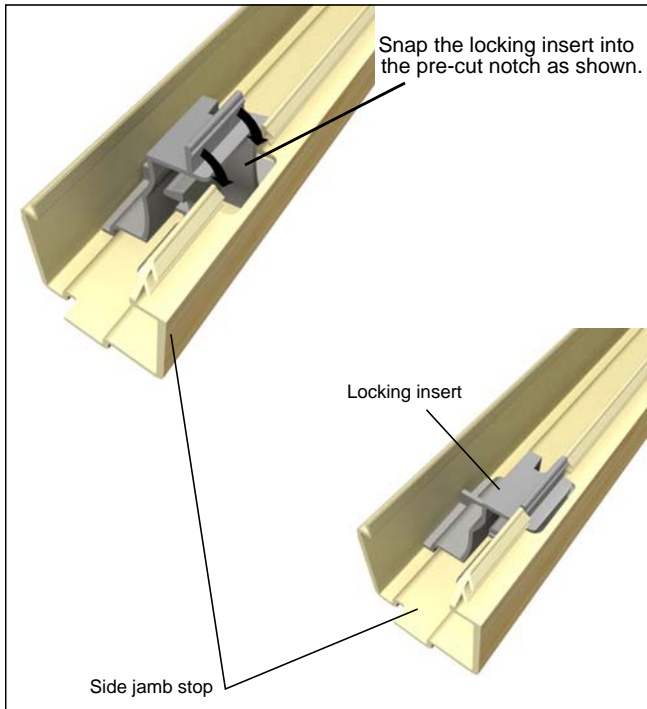

Figure 3
3. For **Ultimate Casement** windows: Locking inserts are already installed inside the side jamb stop. If one should come loose, snap the insert back into place as shown. See figure 3.